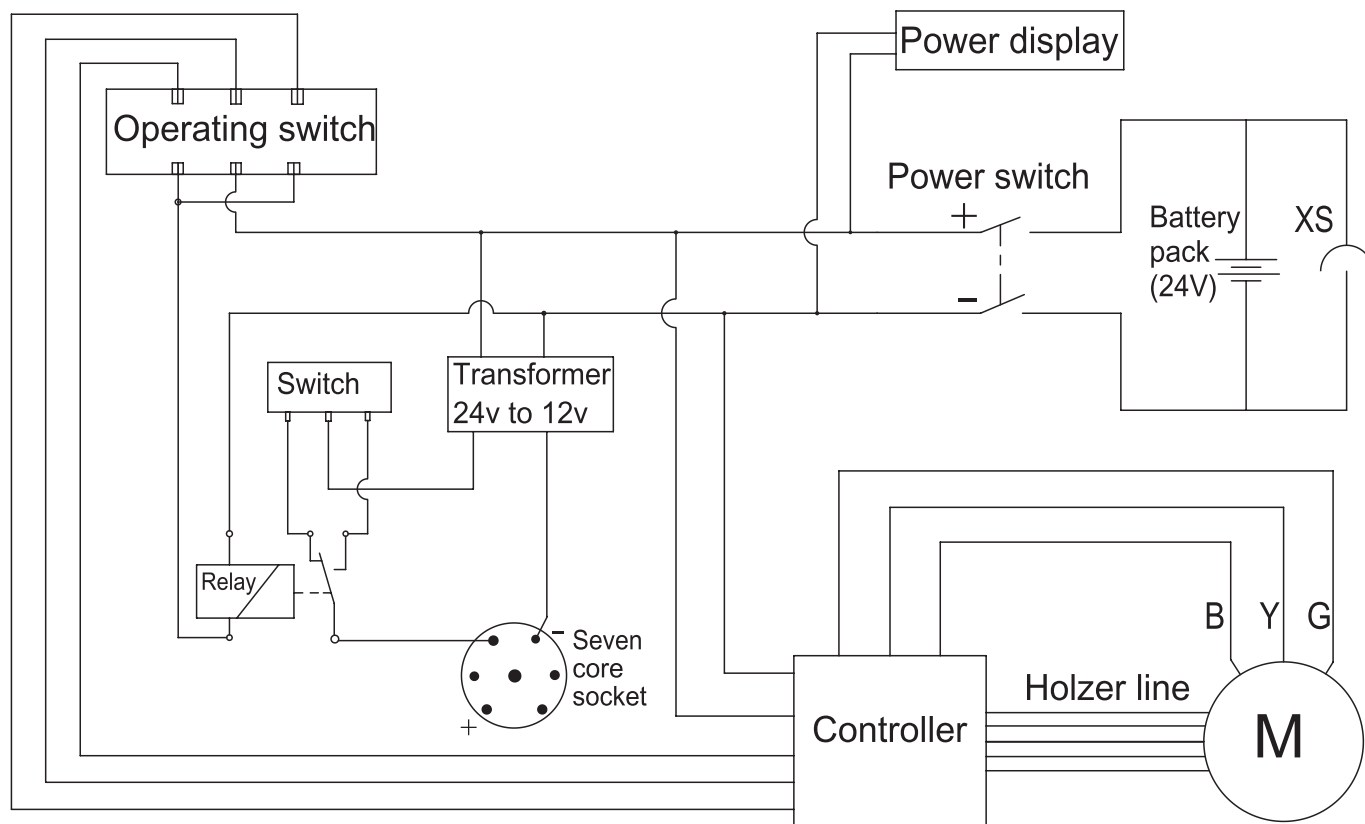

Fig.07
4.5 Battery cable connection (Fig.07)